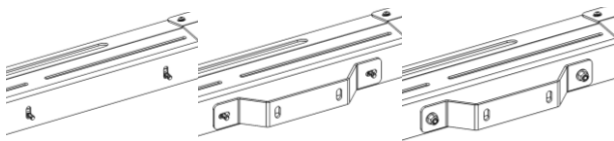

Figure 8: Assembly of Mounting Brackets
6. Flip the flooring panels over so the flat surface is face up and install the Back Panel onto the rear of the rack using the #10-32 x 3/8" bolts as shown in Figure 8.